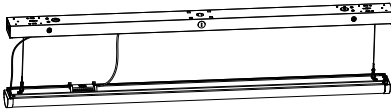

Figure 13
Step 2. Assemble the DC sensor to the corresponding position (Figure 13).